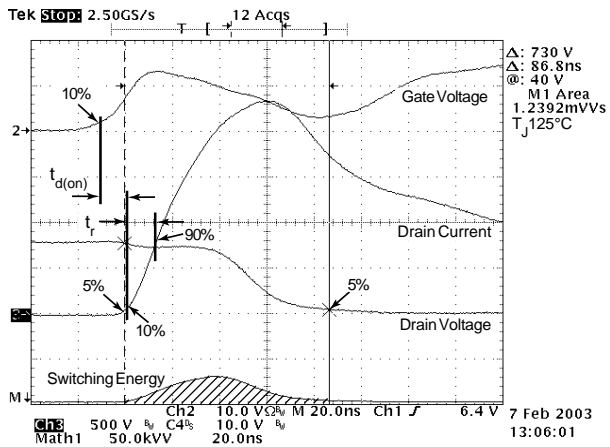

Figure 18, Turn-on Switching Waveforms and Definitions
① Repetitive Rating: Pulse width limited by maximum junction temperature
② Pulse Test: Pulse width < 380  $\mu s$ , Duty Cycle < 2%
③ See MIL-STD-750 Method 3471
④ Starting  $T_j = +25^\circ C$ ,  $L = 15.43mH$ ,  $R_G = 25\Omega$ , Peak  $I_L = 18A$
⑤  $dv/dt$  numbers reflect the limitations of the test circuit rather than the device itself.  $I_S \leq -I_D 18A$   $di/dt \leq 700A/\mu s$   $V_R \leq 1200$   $T_j \leq 150^\circ C$
⑥  $E_{on}$  includes diode reverse recovery. See figures 18, 20.